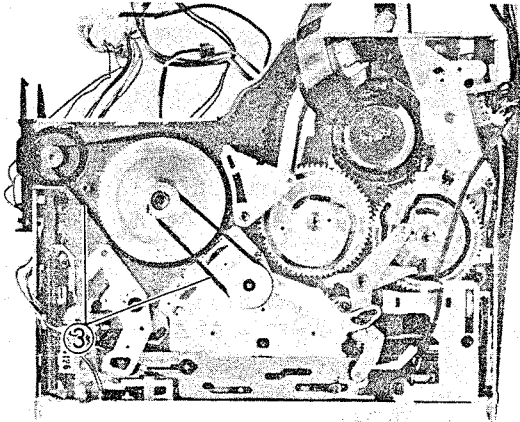

Fig. 2-106 Capstan Flywheel Removal
Capstan Flywheel Removal (Figs. 2-106, 2-107)
3. Remove two (2) belts from the capstan flywheel. (See Fig. 2-106)